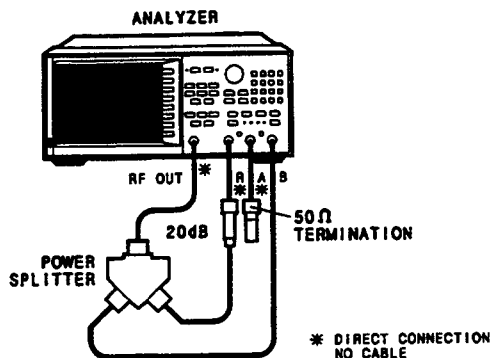

Figure 5. B-into-A Input Crosstalk Test Setup
6. Connect the equipment as shown in Figure 5 and press **[MEAS] [A/B] [MENU] [TRIGGER MENU] [NUMBER of GROUPS] [5] [x1]**. At the end of the sweeps, record the marker value.